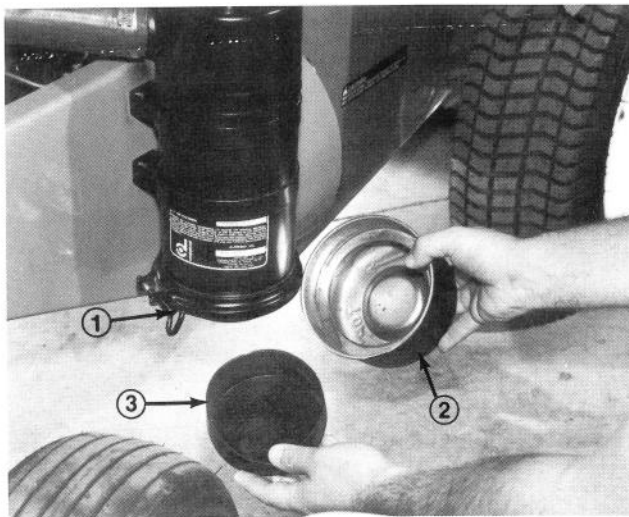

Figure 42
1. Loosen thumb screw until dust cup and baffle can be removed (Fig. 42). Separate dust cup and baffle (Fig. 42).